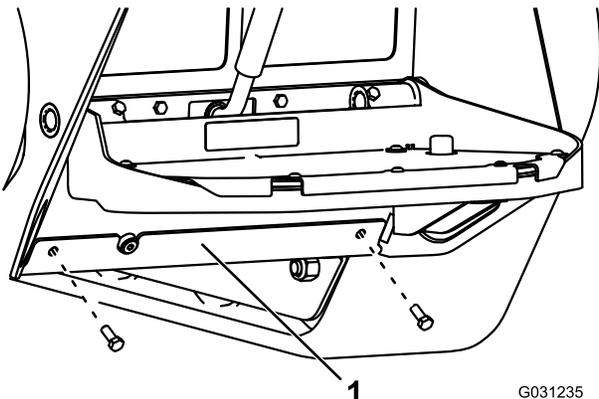

Figure 61
3. Remove the 2 bolts securing the bottom plate and remove the bottom plate (Figure 61).
7. Install the bottom plate (Figure 61).